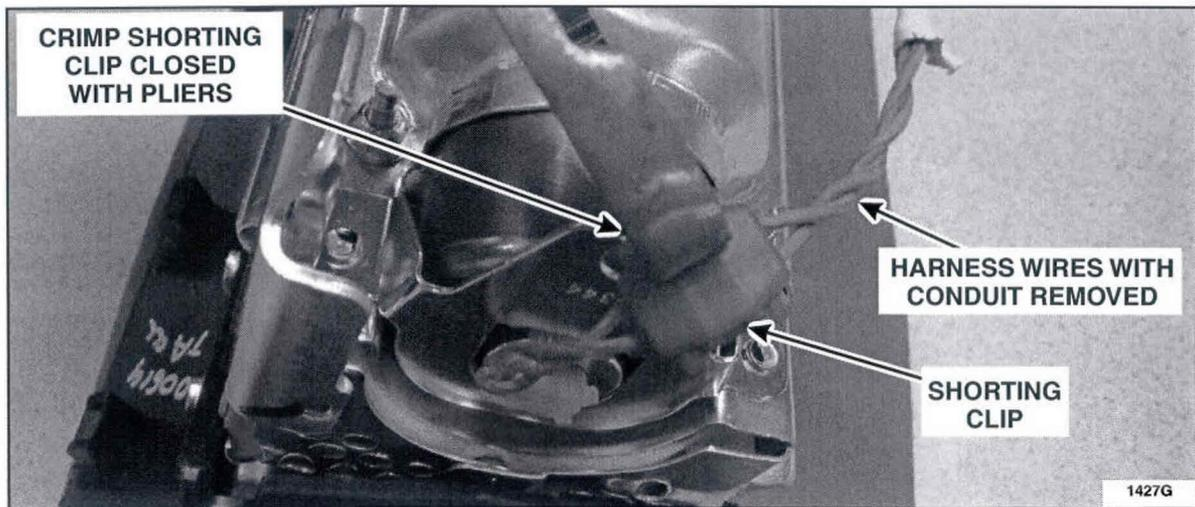

FIGURE 6
6. Using a pair of pliers, install the shorting clip onto the harness wires. Crimp one side of the shorting clip together at a time. See Figure 6.